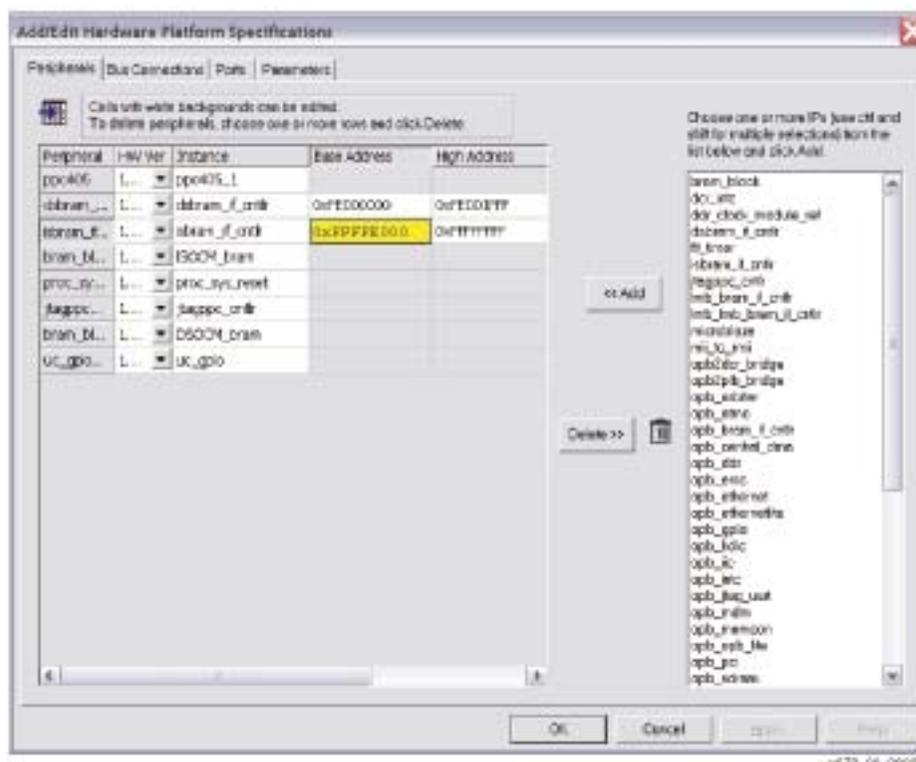

Figure 8: Instruction-Side Memory Address
- Change the hardware memory starting address (*isbram*) under Project / Add/ Edit Cores. The screen capture in Figure 8 illustrates the dialog. The current address is 0xFFFFE000.